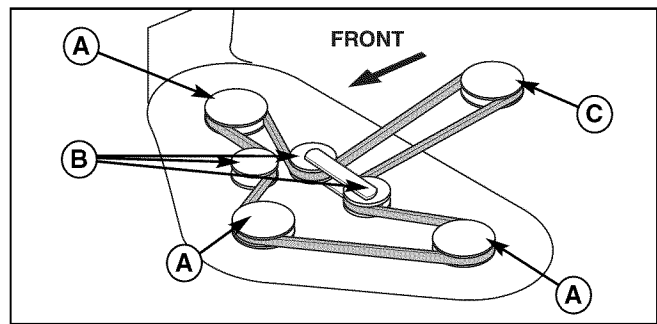

Figure 12. Mower Belt Routing
6. Remove the belt from the PTO pulley (C, Figure 12)
6. Install the roller bar connecting rod (M) and the hair pin.
7. Lift the front of the deck using a 2 x 4 as a lever, pull the handle (G) to align the front hanger rod ends (H) with the slots and secure with the front rod locks (A & B).
8. Install the belt as shown in Figure 12. Make sure that the V-side of the belt runs in the pulley grooves of the spindle pulleys.